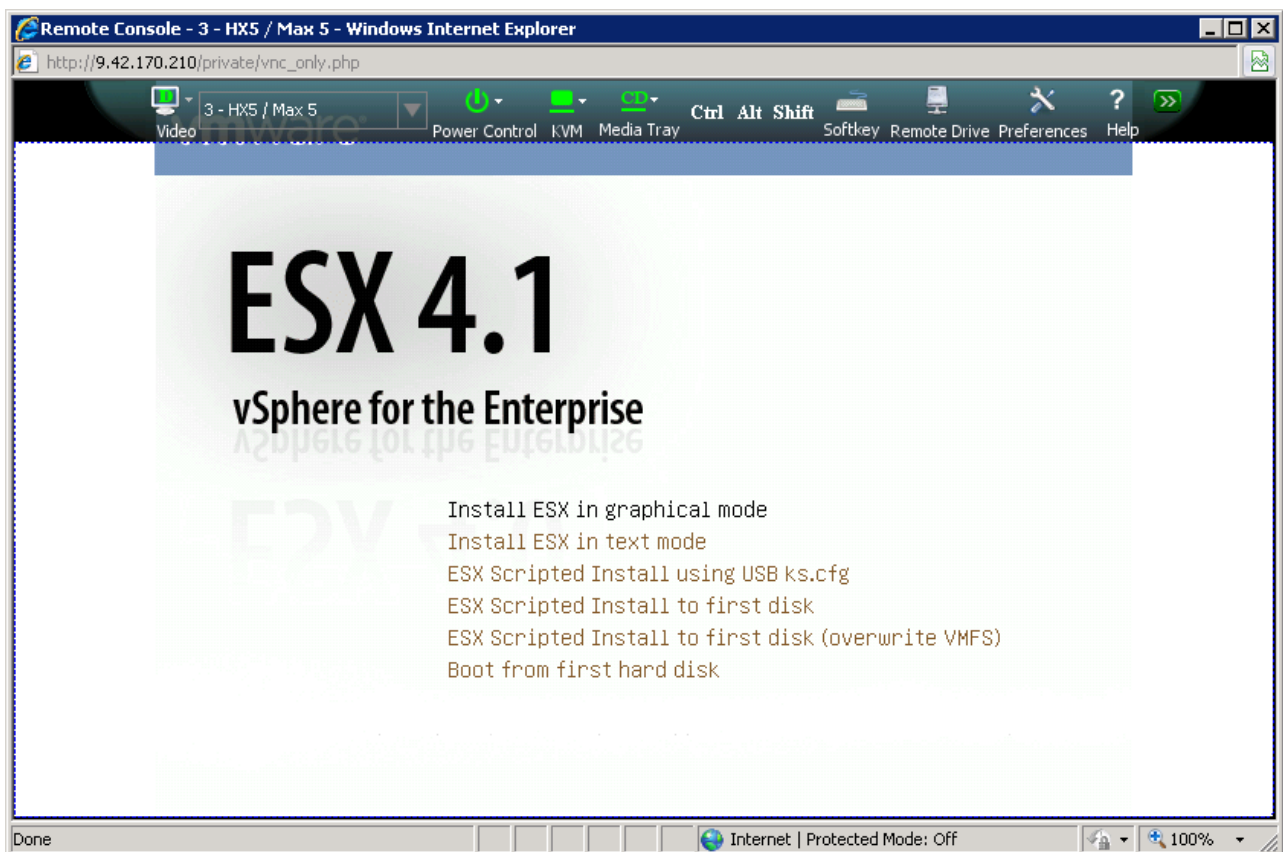

Figure 8-58 ESX installation options panel
3. Press F2 when you receive the installation options panel, as shown in Figure 8-58.